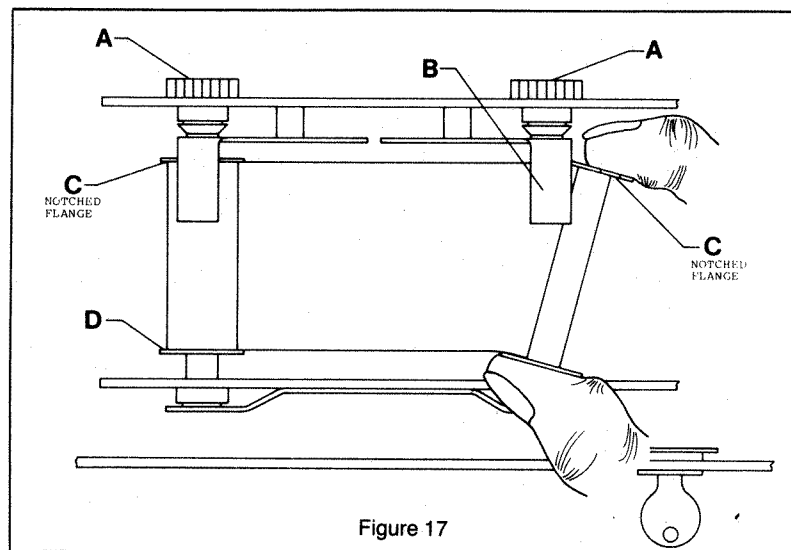

Figure 17
To Remove Ribbon (*figure 17*)
Turn one of the ratchet wheels (A) one revolution to create slack in the ribbon. Lifting the ribbon feeler (B) out of the way, place your index finger behind spool flange (C). Applying pressure towards operator, swing ribbon spool away (*figure 17*). Repeat operation for other side. Discard ribbon.
Installing New Ribbon (*figure 17*)